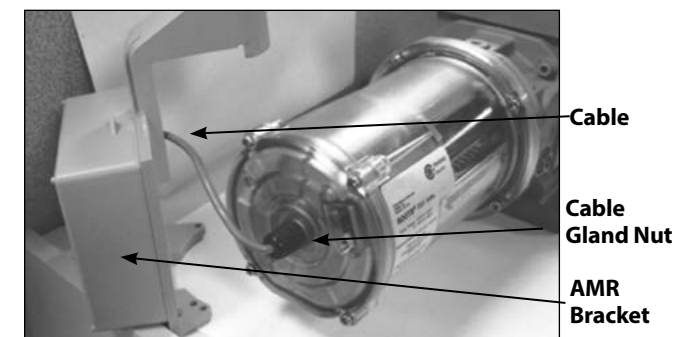

Figure 13.5 -Remove AMR bracket from ES3
Note: Do not open AMR or cut the cable that is wired from the ES3 to the AMR. Refer to Figure 13.5 below.
3. Loosen the nut on the Cable Gland shown in Figure 13.5.